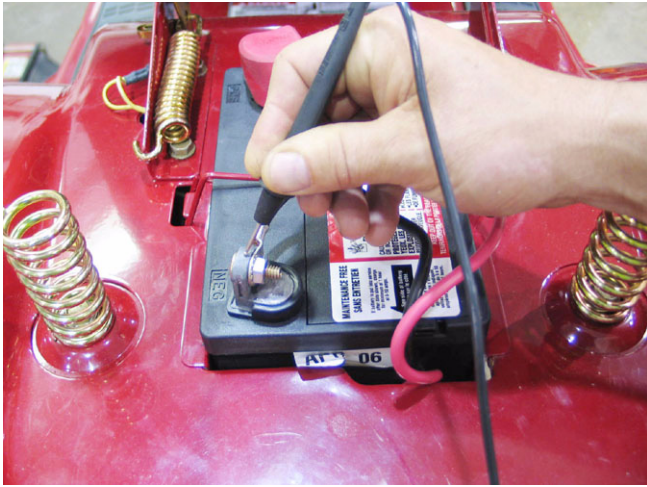

Figure 17.41
17.41. Voltage drop tests are useful on both the positive or the negative side of the system. We will concentrate on the negative side to begin with. See Figure 17.41.